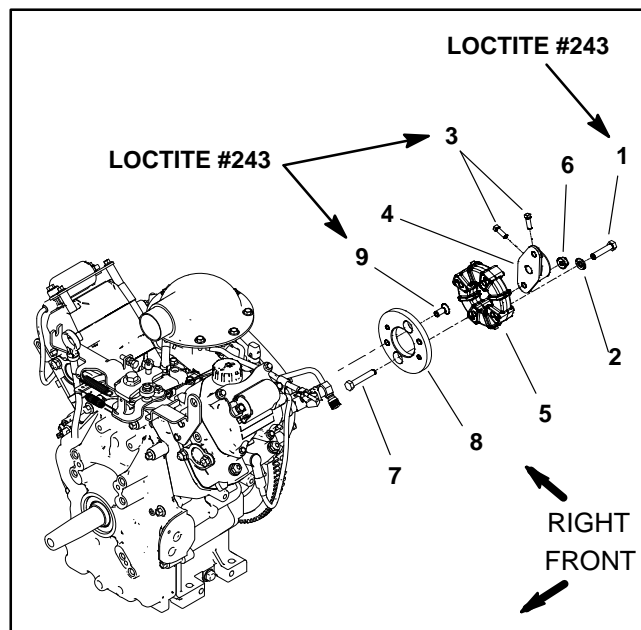

Figure 32
4. Remove two (2) set screws (item 3 in Fig. 32) on the pump hub to allow gear pump shaft removal from pump hub.
6. Remove four (4) flange nuts and flange head screws that secure gear pump to mount.
4. Install four (4) flange head screws and flange nuts to secure pump to mount. Do not fully tighten fasteners.
6. Apply Loctite #243 (or equivalent) to threads of pump hub set screws (item 3 in Fig. 32). Install and tighten both set screws to the pump hub to secure hub to the gear pump shaft.